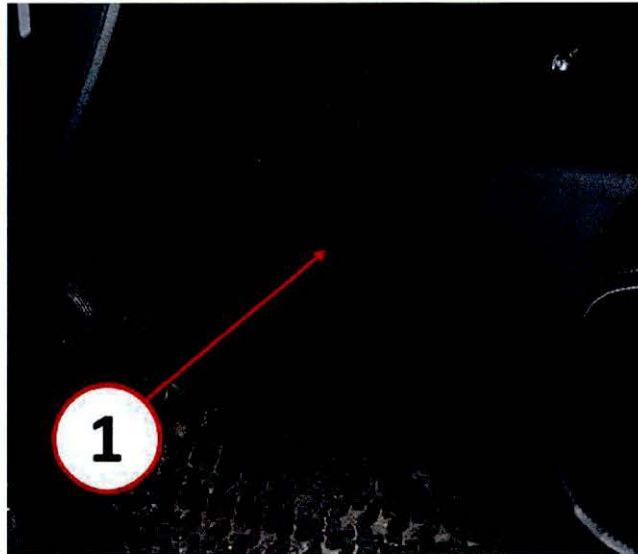

Fig. 7 Install Carpet
5. Reinstall carpet as received (Fig. 7).